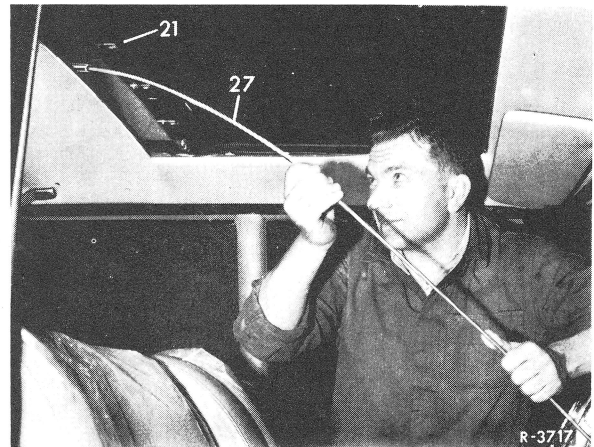

Fig. 2 (shown on Model W 100)
- 3 Grease coil at end of new teleflex control (27) well with acid-free grease and introduce carefully into teleflex tube (28) (Fig. 2).